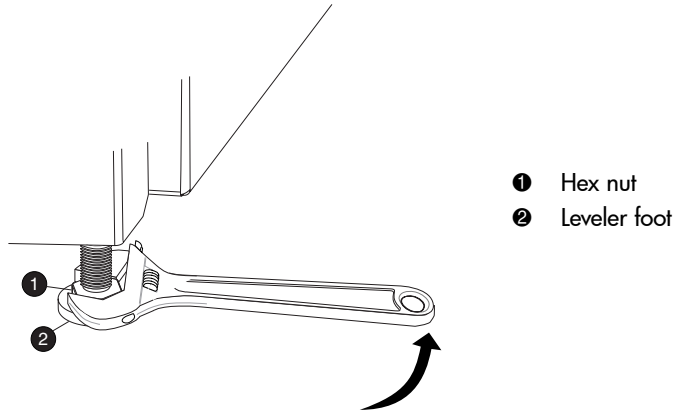

Figure 63: Raising a leveler foot
1. Raise one foot by turning the leveler foot hex nut counterclockwise until the weight of the rack is fully on the casters. See Figure 63.